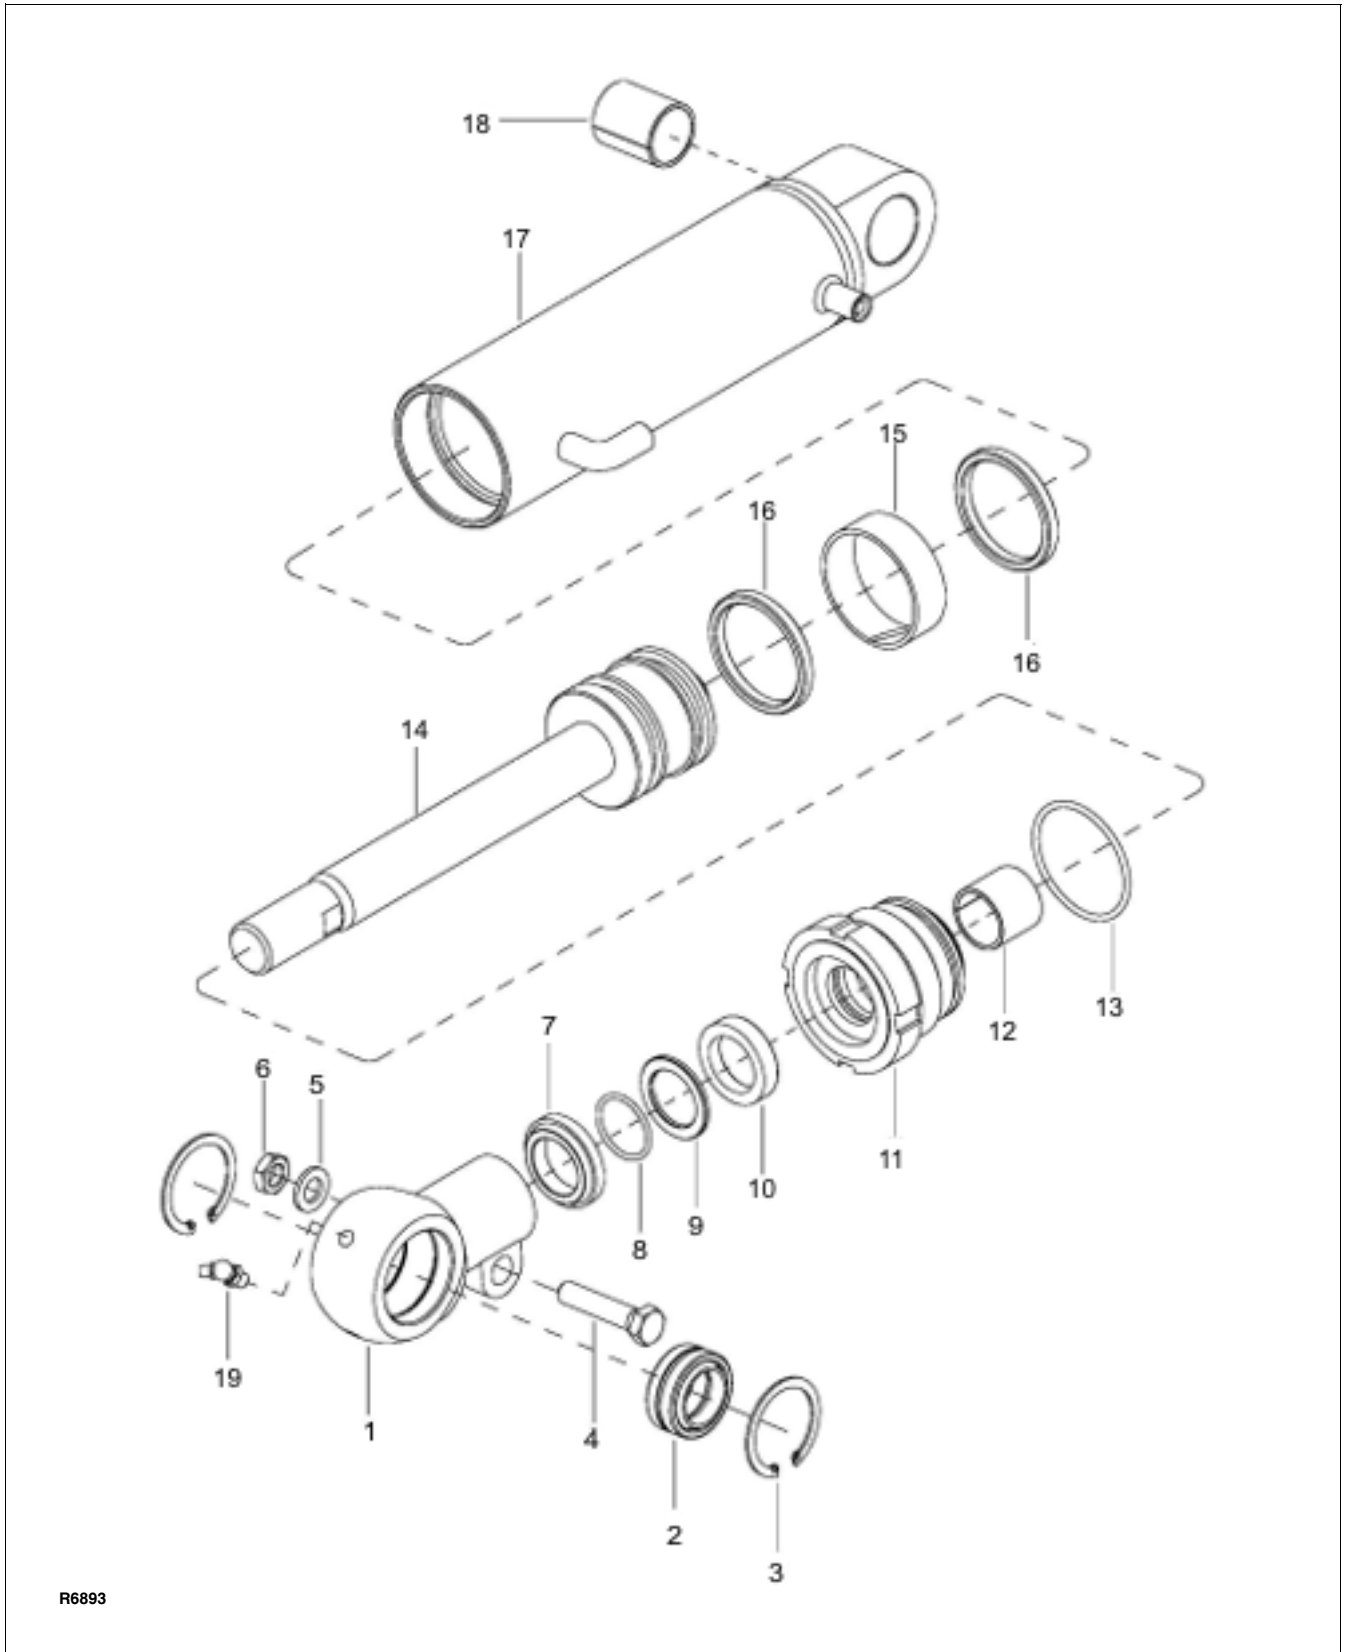

Figure 9-10 Tilt Cylinder
1. Remove nut (6, Figure 9-10), lock washer (6) and bolt (4).
2. Remove clevis (1) from piston rod (14).
3. In necessary, remove retaining rings (3) and bearing (2) from clevis (1).
4. Remove gland nut (11) from tube (17).
5. Remove dust seal (7), O-ring (8), snap ring (9), seal (10), O-ring (13) and bearing (12) from gland nut (11).
6. Pull piston rod (14) out of tube (17).
7. Remove seals (16) and wear ring (15) from piston rod (15).
8. If necessary, remove bearing (18) from tube (17).
10. Install bearing (18) in tube (17).
11. Install seals (16) and wear ring (15) on piston rod (15).